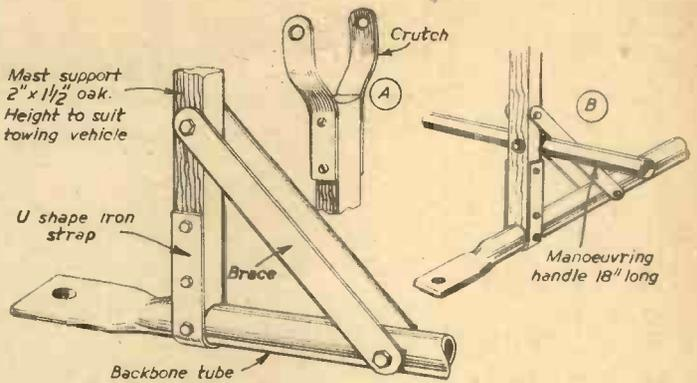

Fig. 13.—Details of the mast support, crutch and manoeuvring handle.
in U-form and attached to the backbone tube by a single horizontal nut and bolt. The strap is then screwed or bolted firmly each side of the timber. To give extra support, two pieces of strap iron are bolted diagonally from the backbone tube to the mast support just above the end of the U-shaped bracket (Fig. 13). The crutch is made by two pieces of strap iron bent to shape and screwed each side of the timber (see Fig. 13 (A)). The ½in. dia. holes at the end of each prong of the crutch are useful for passing rope through to hold the mast firmly. Line the inside of the crutch with a strip of thick felt. Manoeuvring handles are made from an 18in. length of ½in. dia. light gauge tubing. It is placed centrally behind the mast support and under the two diagonal supporting straps and held by a single nut and bolt (see Fig. 13 (B)).